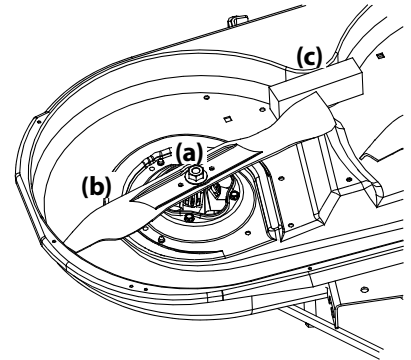

Figure 4-22
2. Use a $\frac{1}{4}$ " wrench to hold the hex nut on top of the spindle assembly when loosening the hex nut (a) securing the blade (b). A block of wood (c) may be placed between the deck housing and the cutting edge of the blade (b) to help in breaking loose the hex nut (a) securing the blade. See Figure 4-22.